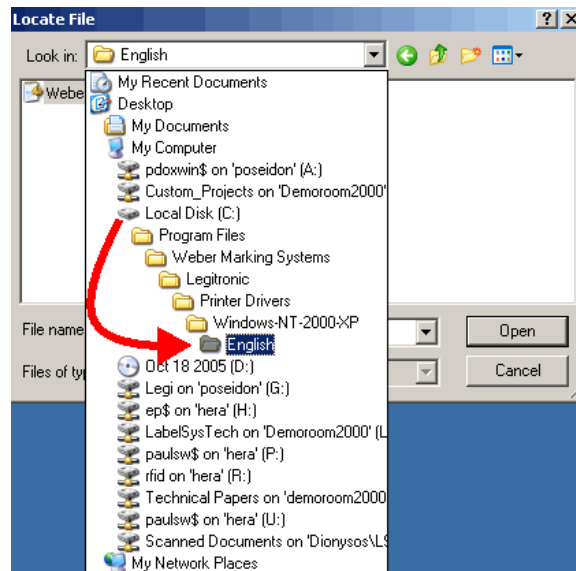

Figure 16
20. Browse to C:\Program Files\Weber Marking Systems\Legitronic Labeling Software\Printer Drivers\Windows-NT-2000-XP\English folder. (Figure 16)